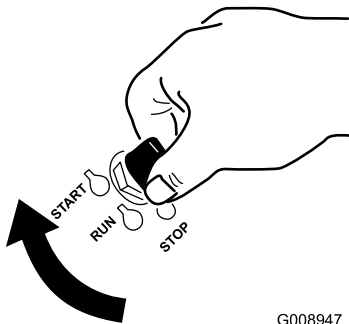

Figure 18
- Turn the ignition key to the START position (Figure 18).